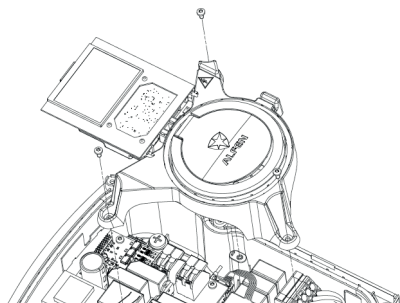

Figure 6: Detach subframe
6. Remove the cap (14) on page 2).
8. Remove the transparent subframe by removing the three Torx T20 screws. See figure 6